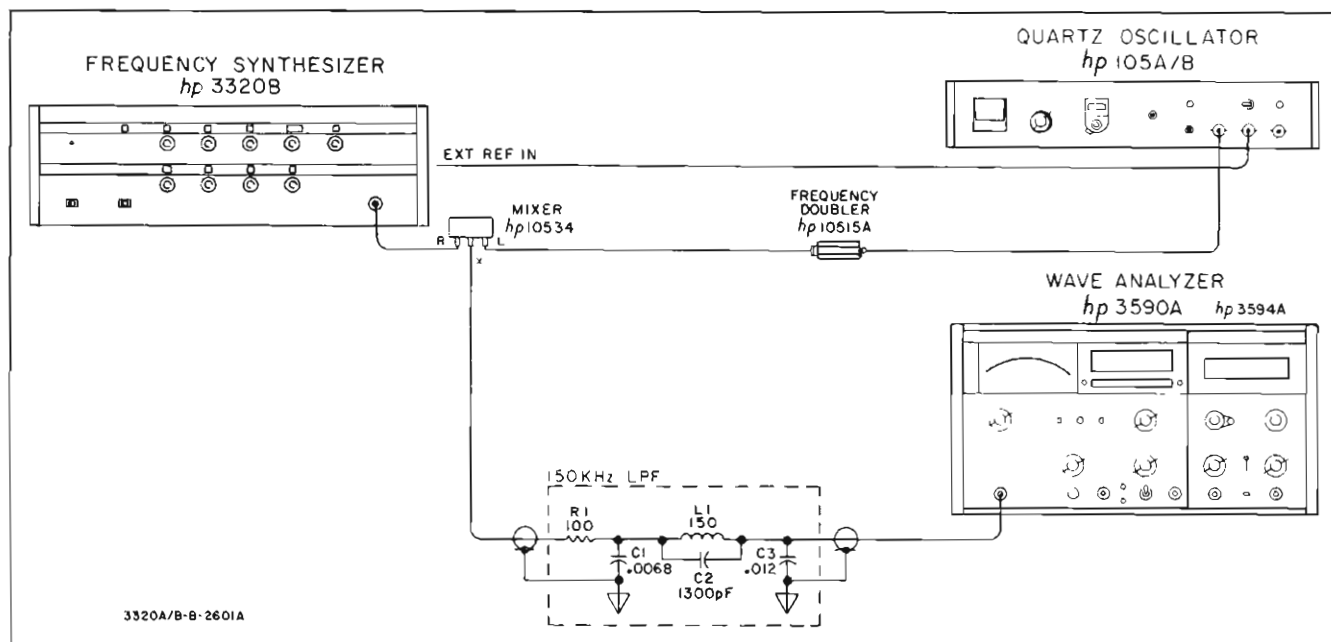

Figure 5-3. Spurious.
d. Connect the equipment as shown in Figure 5-3 (insure the 5 MHz oscillator is at 5,000,000.0 Hz).